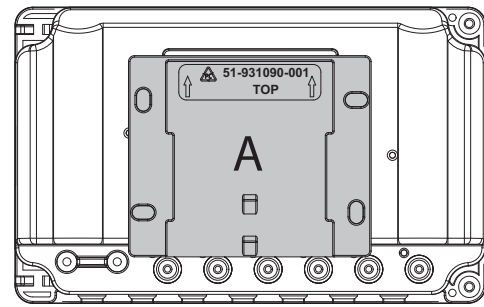

Fig. 1
1. Remove the A mounting base (Fig. 1) from the calculator by moving it in the direction opposite than indicated by the arrows on it